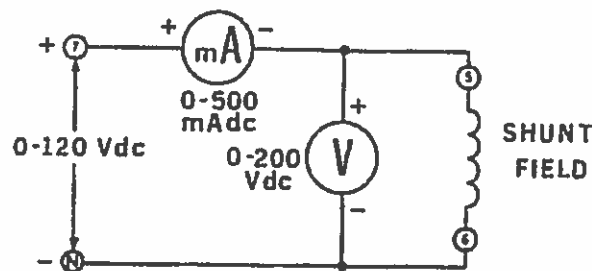

Figure 11-1.
- ☒ 6. You will now measure the resistance of each of the motor windings using the voltmeter-ammeter method. With this information you will calculate the power losses for each of the windings. Using your Power Supply, DC Voltmeter/Ammeter and DC Motor/Generator, connect the circuit shown in Figure 11-1.
- a. This is the same circuit as shown in Figure 11-1 except that the series field winding has replaced the shunt field winding and that the 5 A dc meter has replaced the 500 mA dc meter.